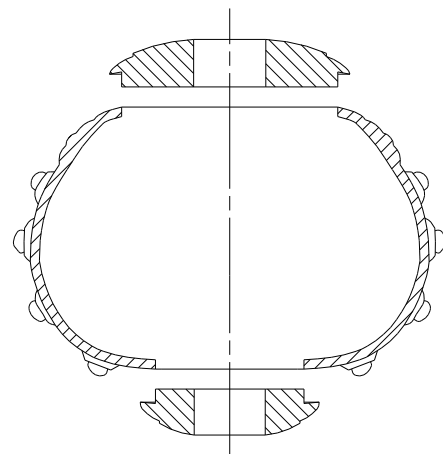

Figure 5: Insert Installation
- Once both inserts are turned, glue into openings using thick (gap-filling) CA glue, as shown in Figure 5.